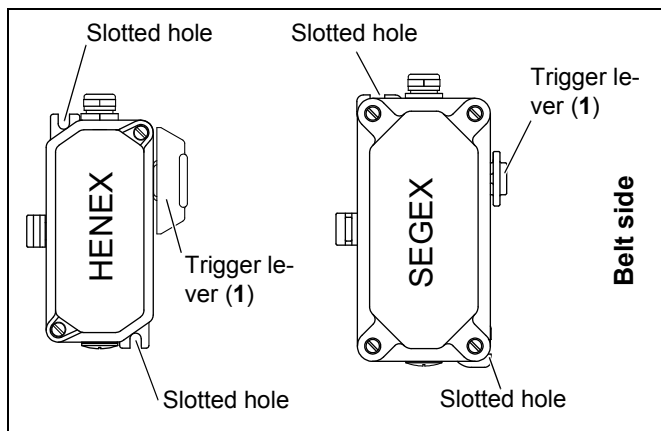

Fig. 5-3: Mounting the pull-rope emergency stop switch
2. Secure the pull-rope emergency stop switch *centered* between the attachment points on the conveyor structure (*Mounting dimensions see Section 4.4, page 16*). In doing so, the actuating lever (1) must point towards the belt. Attach the pull-rope emergency stop switch by screwing two screws through the slotted holes (*see fig. 5-3*).